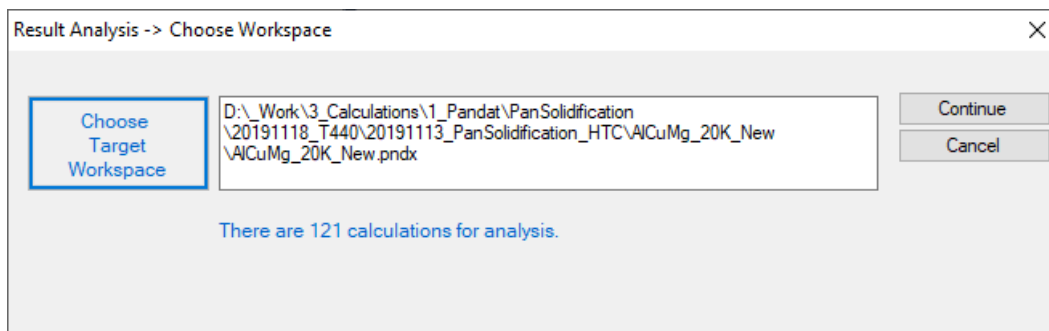

Figure 5.3.4: “Result Analysis” popup dialog to choose target workspace
- After all calculations have been finished, analyze the results through menu Batch Calc → Result Analysis. User can then analyze the results of the selected HTC calculation by opening the corresponding workspace as shown in Figure 5.3.4.